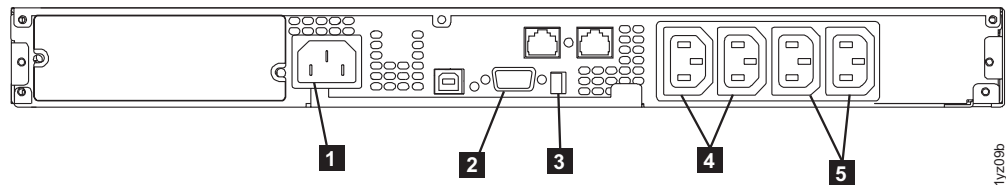

Figure 126. 2145 UPS-1U (rear view)
9. At the back of the 2145 UPS-1U, reconnect the power cable of the SAN Volume Controller to load segment 2 receptacle **5**. See Figure 126.
10. Reconnect the signal cable to the communication port **2**. See Figure 126.
The 2145 UPS-1U is now in standby mode with the SAN Volume Controller offline. All indicators that are shown in Figure 126 are off.